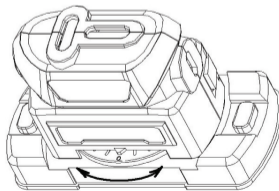

Fig. 6
6. If need a line with any angle to the above laser line, keep the tool static, rotate the alignment plate until the "0" scale align to the pointer. (see Fig.6)